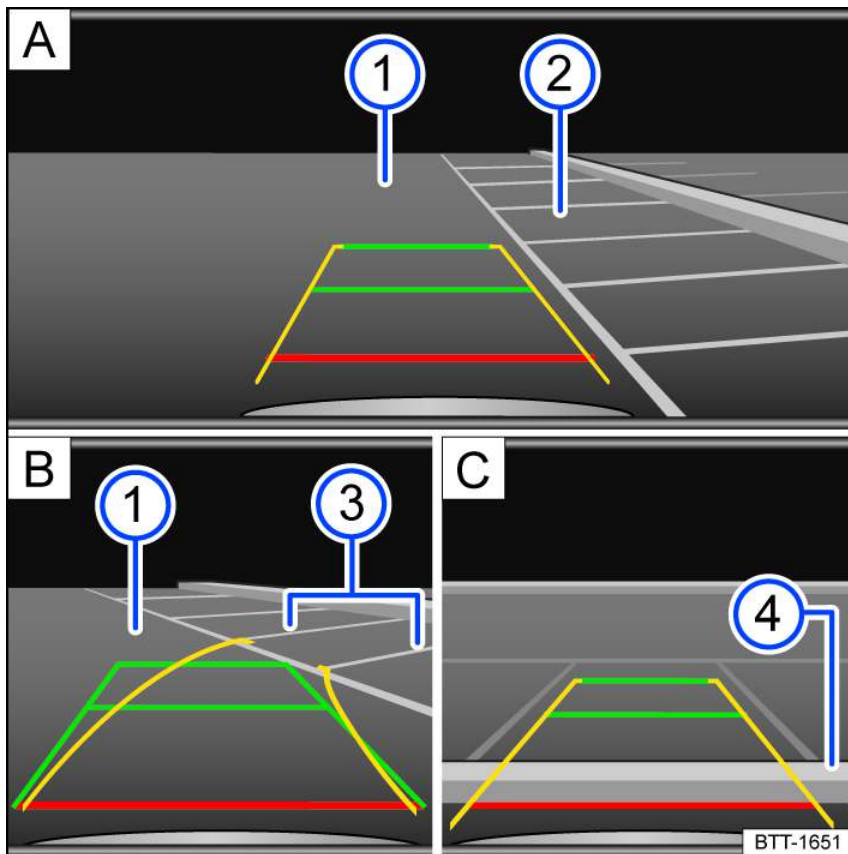

Fig. 116 Infotainment system: Parking perpendicular to the road.
① Road surface.
② Parking space.
③ Side boundary of the parking space.
④ Rear boundary of the parking space.
3. Position your vehicle in front of the parking space *fig. 116 A* ②.
4. Steer so that the yellow lines lead into the parking space. The green and yellow lines must align with the side boundary lines *fig. 116 B* ③.
5. Stop when the red line reaches the rear boundary *fig. 116 C* ④.